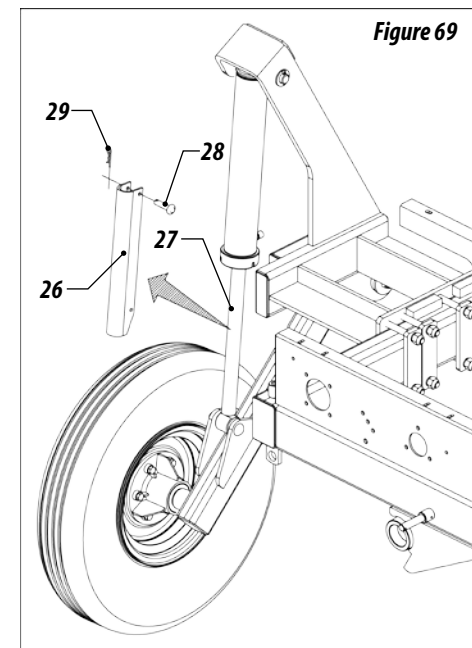

Figure 69
16 - Before transporting the seed drill, put the latch (26) on the transport wheelset piston rod (27) through the pin (28) and retaining pin (29) according to figure 69.